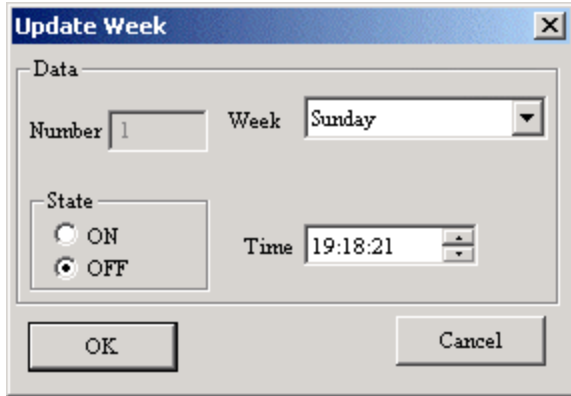

Fig. 6.9
**Insert:** To insert a time in the existing time setting combination, please click *<Insert>* button and a dialogue box will appear, as shown in Fig. 6.9.
**Update:** To update a time, put the cursor on the said time record and click the *<Update>* button. As a time setting frame similar to that shown in Fig. 6.9 appears, reset the time, click *<OK>* and the said time record is updated.